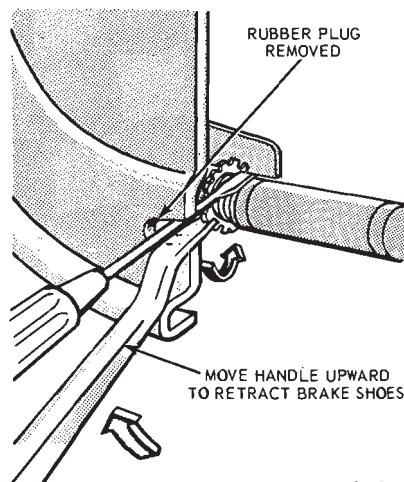

FIG. 6—Backing Off Brake Adjustment
4. If the drum will not come off, pry the rubber cover from the brake backing plate. Insert a narrow screwdriver through the slot and disengage the adjusting lever from the adjusting screw. While holding the adjusting lever away from the screw, back off the adjusting screw with the brake adjusting tool (Fig. 6). Be very careful not to burr, chip, or damage the notches in the adjusting screw; otherwise, the self-adjusting mechanism will not function properly.
2. Remove the hub cap and wheel. Remove the three Tinnerman nuts and remove the brake drum. If the drum will not come off, pry the rubber cover from the backing plate. Insert a narrow screwdriver through the hole in the backing plate, and disengage the adjusting lever from the adjusting screw. While holding the adjusting lever away from the adjusting screw, back off the adjusting screw with the brake adjusting tool (Fig. 6). Be very careful not to burr, chip, or damage the notches in the adjusting screw; otherwise, the self-adjusting mechanism will not function properly.